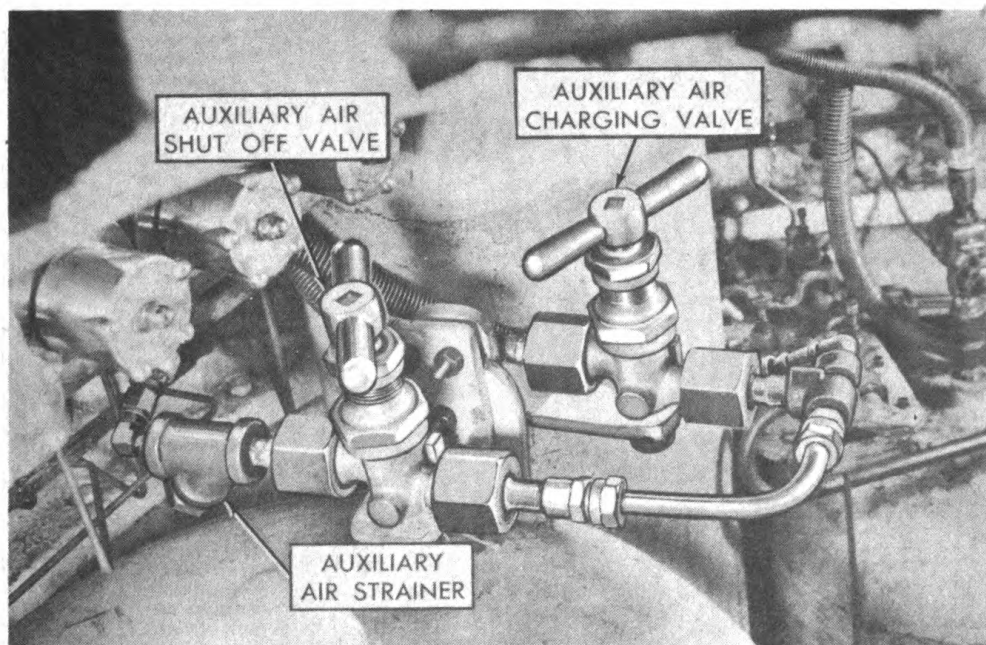
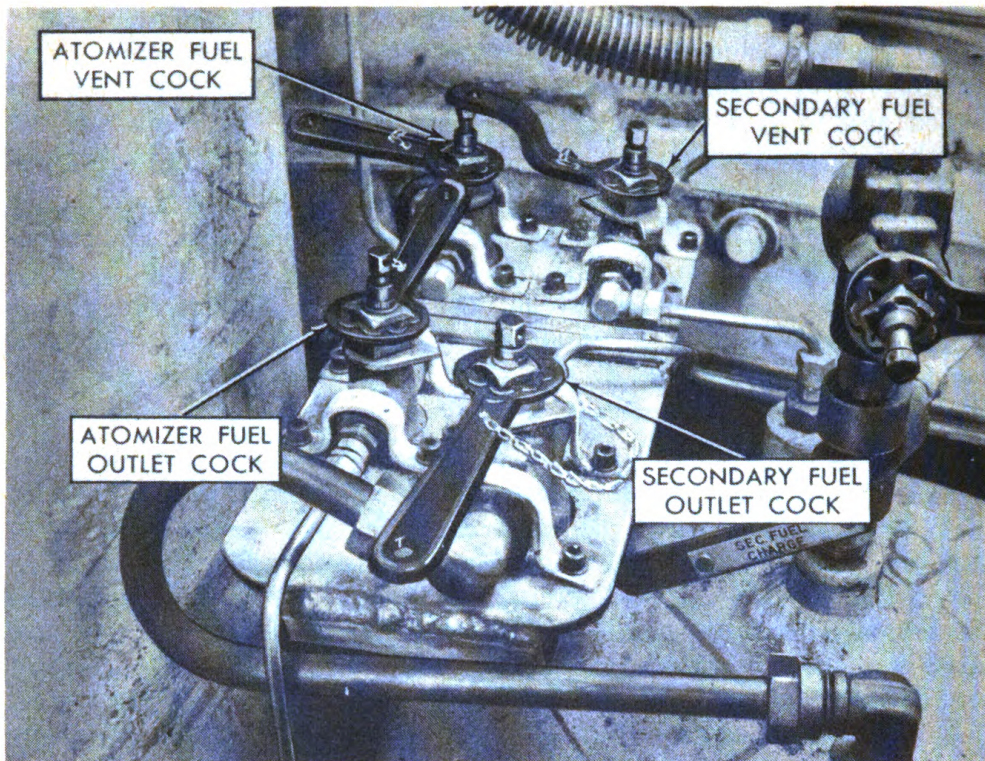

Figure 13—Auxiliary air shut-off and charging valves.
Figure 16—Atomizer and secondary fuel vent and outlet cocks.
(1) *Auxiliary air charging valve* (fig. 13). This is a 1/2-inch globe valve opened only when charging the basket auxiliary pressure container with compressed air or nitrogen or when releasing pressure from this system. The auxiliary air charging valve is bracketed to the basket main fuel container adjacent to the basket auxiliary pressure container in the air charging line. This line enters the turret through a protected well suspended under the left roof periscope ring. The high pressure air hose connection is made outside the turret roof from the service unit, compressor, or commercial cylinders when charging. To open valve, turn handle counterclockwise; to close, turn handle clockwise.
(2) *Auxiliary air shut-off valve* (fig. 13). The auxiliary air shut-off valve is a 1/2-inch globe valve on the discharge from the basket auxiliary pressure container. It supplies or cuts off high pressure air to the gun actuating air, secondary fuel, atomizer air, and atomizer fuel pressure regulators. It is located to the left of the auxiliary air charging valve and is also bracketed to the basket main fuel container. To open valve, turn handle counterclockwise; to close, turn handle clockwise.
(5) *Secondary fuel outlet cock and atomizer fuel outlet cock* (fig. 16). A 1/2-inch secondary fuel outlet cock and a 1/4-inch atomizer fuel outlet cock are provided on the outlet lines from the basket secondary and basket atomizer fuel containers. They control flow of secondary and atomizer fuel to the main control valve and to the atomizer valve. These cocks are located on a metal panel over the top of the secondary fuel container directly above the container. They are normally kept open except when servicing the gun or in an emergency. To open either cock, turn handle one-quarter turn counterclockwise; to close, turn handle clockwise one-quarter turn.
(6) *Secondary fuel and atomizer fuel container vent cocks* (fig. 16). These vent cocks are located on a metal panel over the top of the secondary fuel container. They are to be opened only when filling the basket secondary fuel or basket atomizer fuel containers or when venting the secondary or atomizer fuel systems to the atmosphere. The vent lines from these cocks are carried outside the turret roof through a protected opening. To close either cock, turn handle one-quarter turn counterclockwise; to open, turn handle one-quarter turn clockwise.
g. Open secondary fuel and atomizer fuel outlet cocks (par. 10 d (5)) (fig. 16).
h. Slowly open auxiliary air shut-off valve (fig. 13) in turret (par. 10 d (2)).
- (4) Close main fuel vent cock.
- (5) Close auxiliary air shut-off valve (fig. 13) and vent the basket secondary fuel and basket atomizer fuel containers. Then close vent cocks (fig. 16).